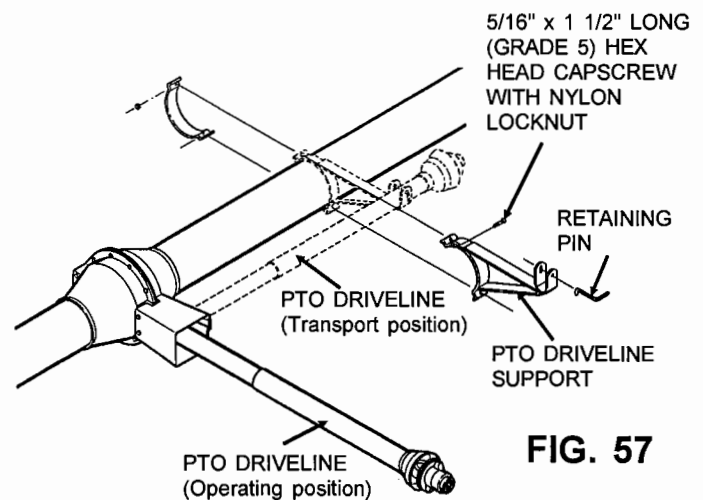

FIG. 57
- Step 4. Place the PTO driveline support 51" from the center of the gearbox (on the discharge end of the drive housing). Secure that support to the tube with a halfband and two 5/16" x 1 1/2" long (grade 5) hex head capscrews and nylon locknuts. See Fig. 57.
- Step 8. Remount the PTO driveline support onto the other side of the tube. See Fig. 57 on page 42.